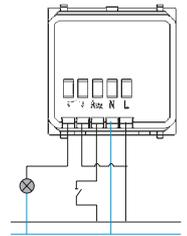

Figure 3: Basic wiring diagram
The electrical wiring of these devices is performed according to the wiring diagram shown in Figure 3. The terminal marked "L" shows the phase wire of the installation. The terminal marked "N" shows the neutral wire of the installation. The terminals marked  $\bar{L}$  and  $\bar{N}$  represent the two terminals of the relay output (voltage free).
1. Connect the device based on the wiring scheme. Figures 3, 4 and 5.